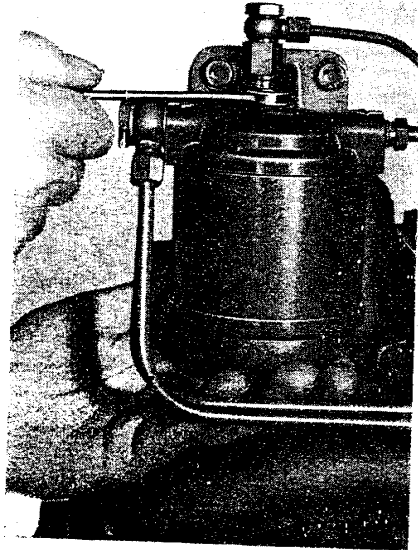

Fig. 7.
2. Unscrew setscrew at top of filter bowl. (see fig. 7).